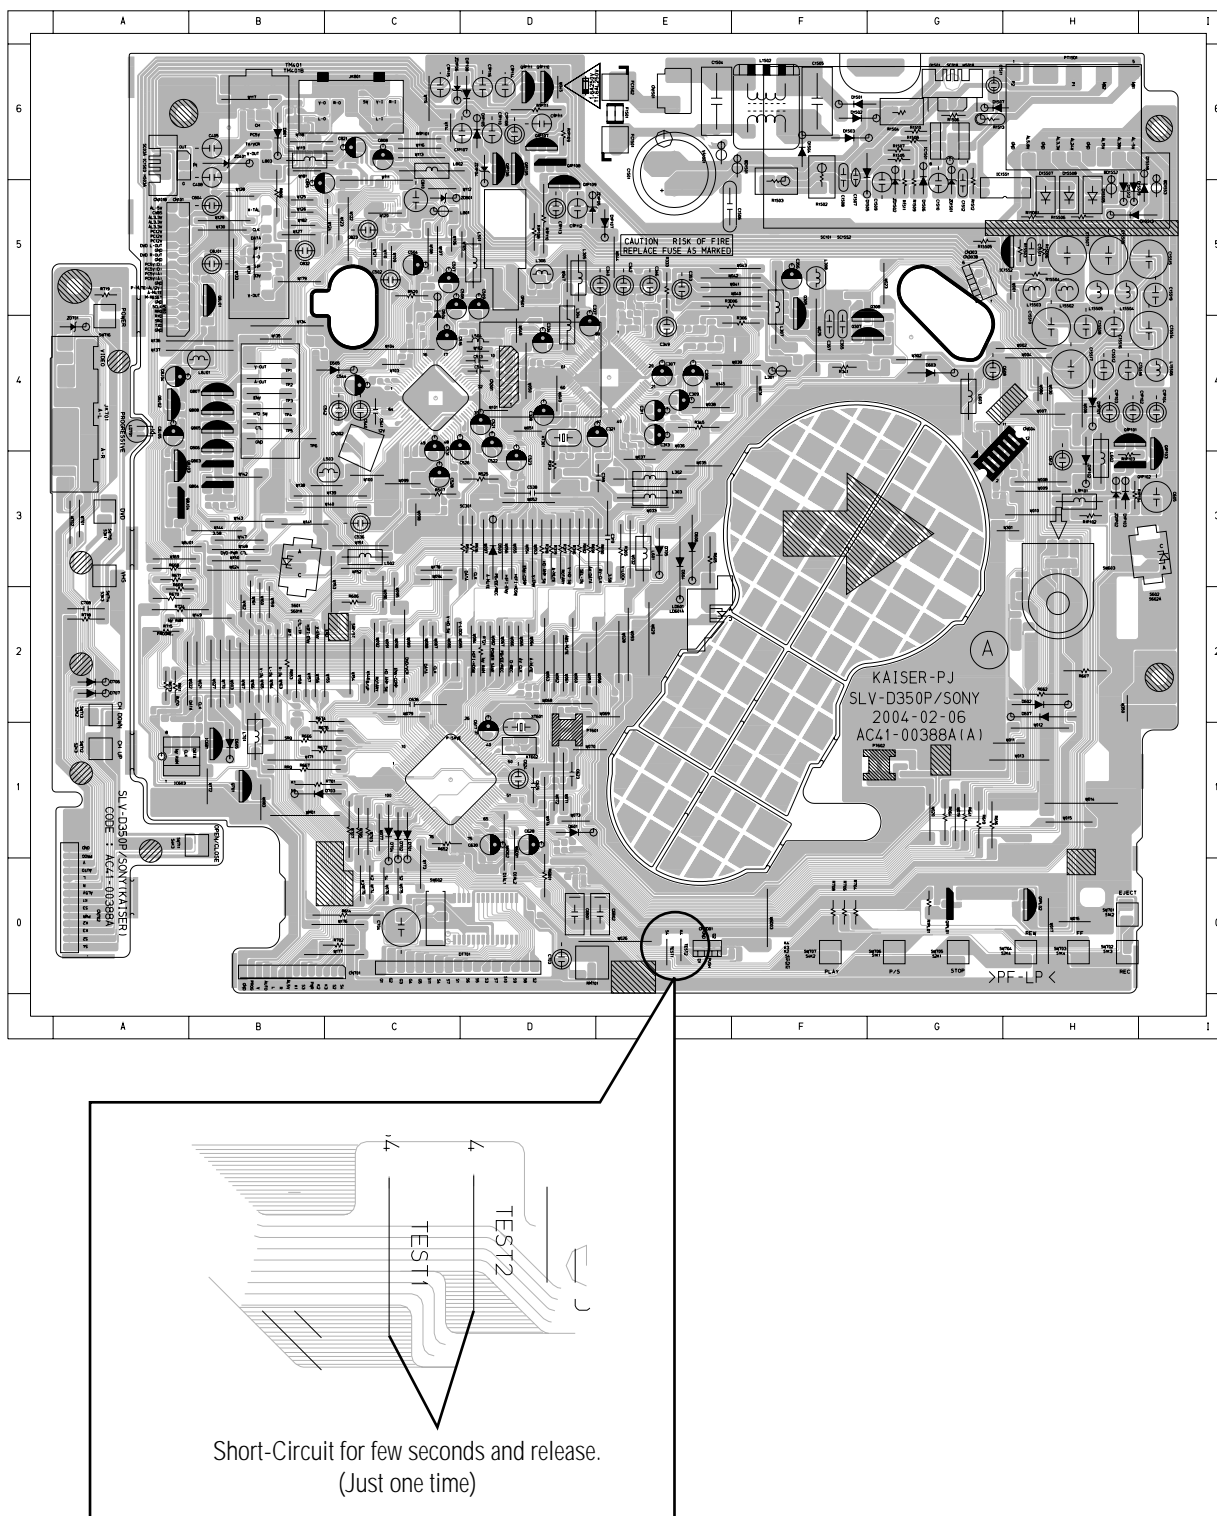

Fig. 6-2 VCR Main PCB (Top View)
- 2) Intermittently short-circuit the two Test Points on Main PCB. (See Fig. 6-2)
- 2) Intermittently short-circuit the two Test Points on Main PCB . (See Fig. 6-2)